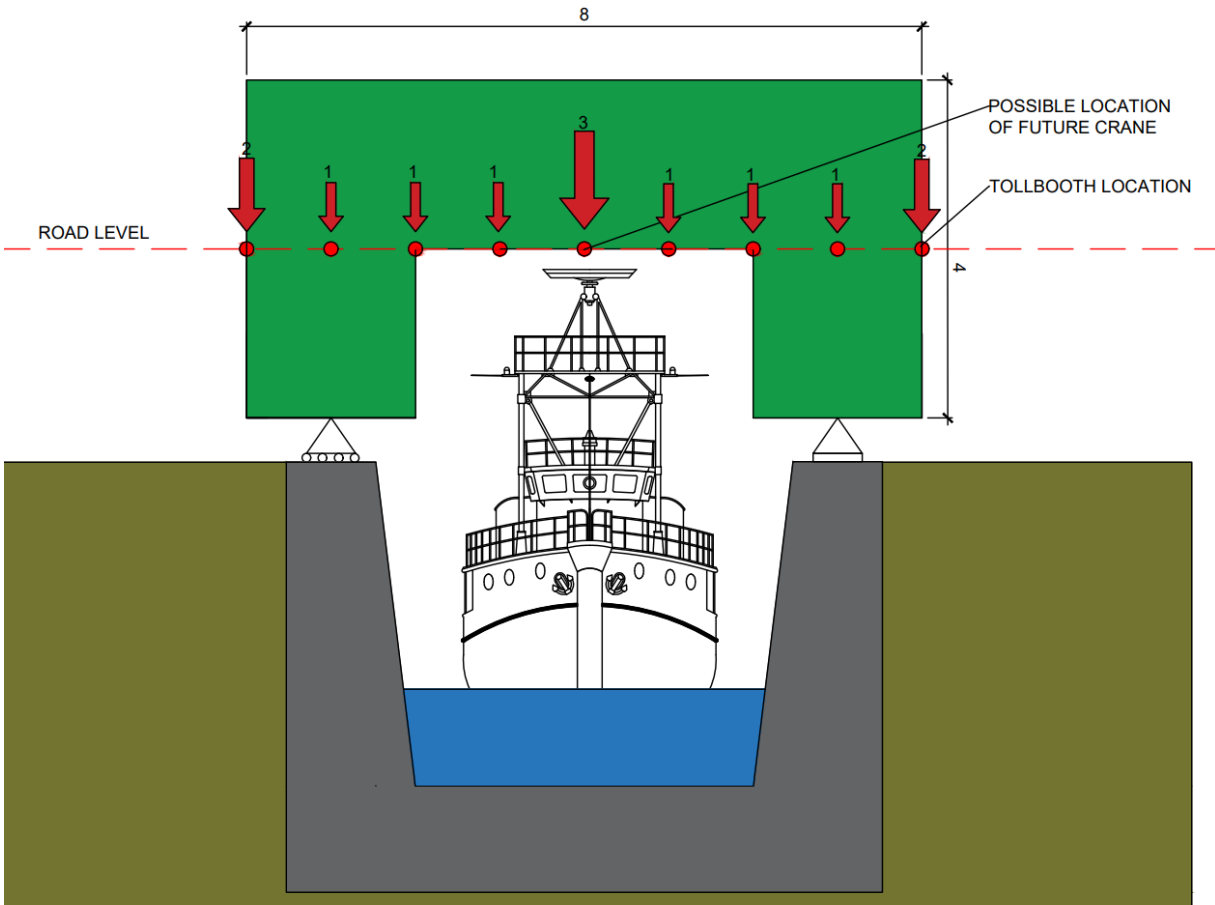
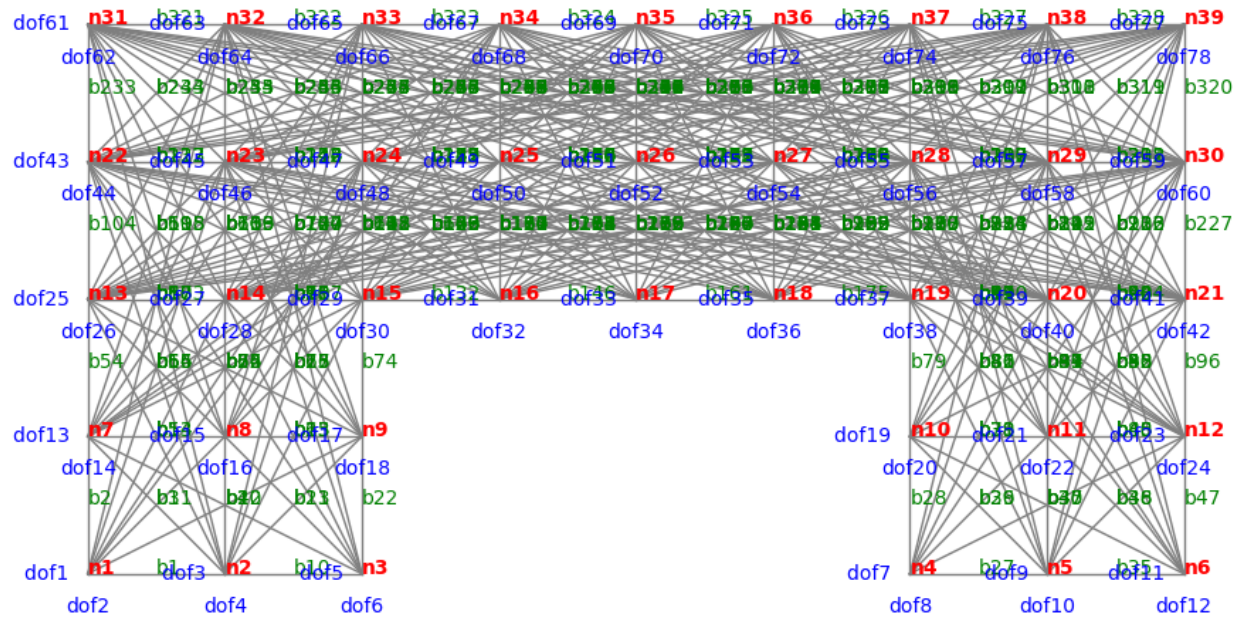
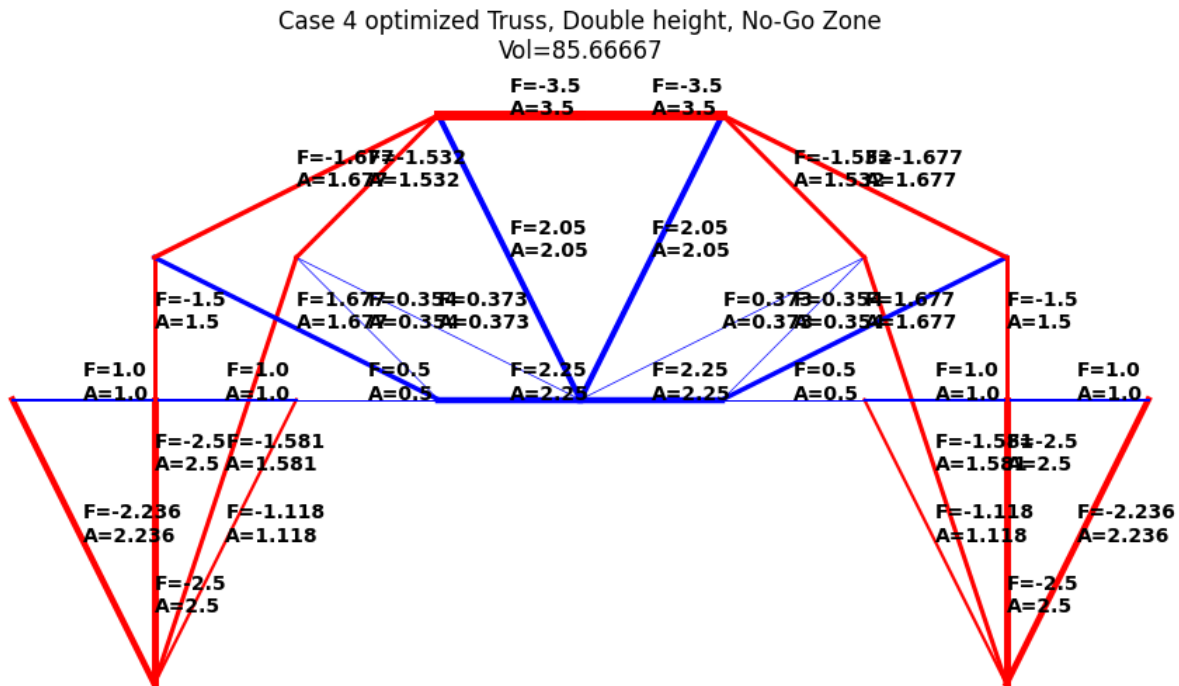

Figure 1.7: Domain, supports, and loads for case 5
Figure 1.8: Layout of possible truss members, DOFs, and nodes
Figure 1.9: Optimized truss combination
To illustrate the versatility and limitations of the code, one can imagine a shipping channel like the one shown below in figure 1.7. A bridge is to be built above the channel, in a domain that provides enough room for the ship to pass underneath. The weight of the deck and the cars is simplified as point loads at deck level. A crane may be installed in the future at the midpoint, causing the need for a higher force resistance. Tollbooths will be built at either end, causing an increase in the force. The bridge will connect to approach tower on either side, and it is desired that the bridge itself be free-standing. The possible members, nodes, and dofs are shown in figure 1.8. The optimized truss is shown in figure 1.9.
- The shape is very weird looking. It is an optimized structure to support a deck that only puts loads at the specific given points in figure 1.7 and could not support loads in between the loading points. It is unclear where the given structure could support any lateral load.